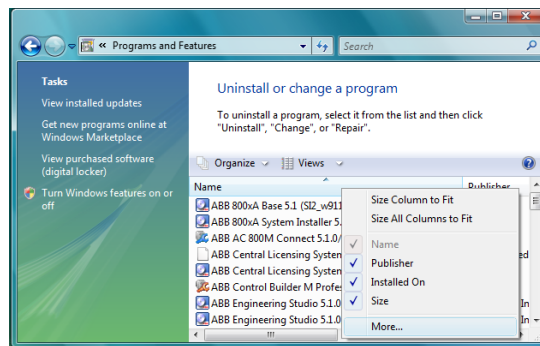

Figure 3. Context Menu to Access More Information
2. Select **More...**, see Figure 3.